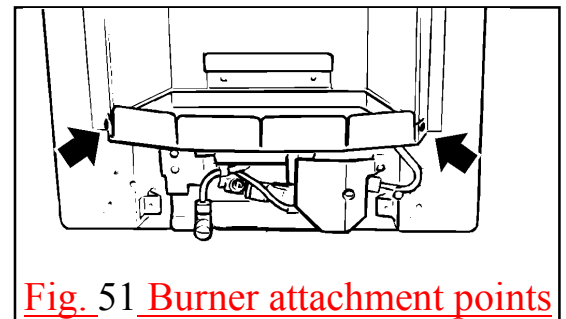

Fig. 51 Burner attachment points
5. Remove the burner assembly by removing the three fixing screws, one at each end of the burner tray and one next to the igniter unit. See figure 51. Carefully remove the burner assembly.